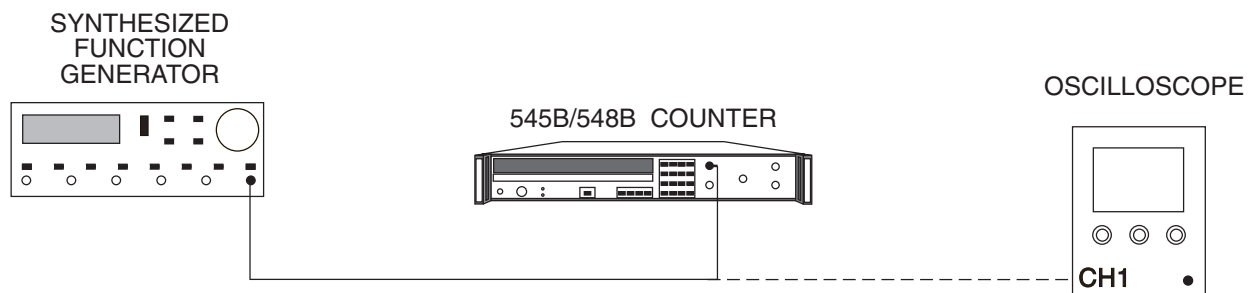

Figure 5-2. Band 1 Range and Sensitivity Test Setup (10 Hz to 10 MHz)
1. Connect equipment as shown in Figure 5-2.